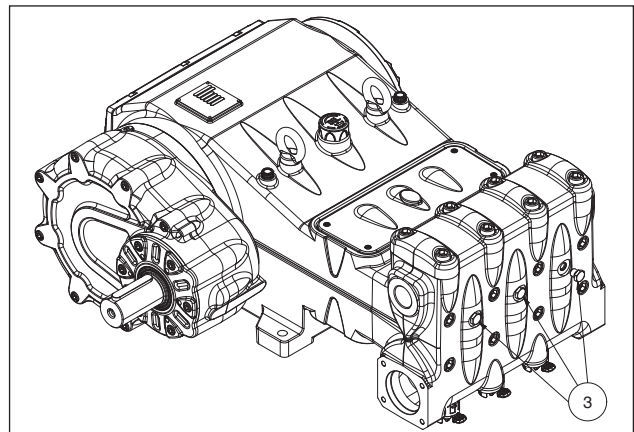

Fig. 11
**Should there be any priming trouble due to insufficient supply, it is possible to remove the three plugs in front of the head (except for the MK240 version) as shown in pos. ③ Fig. 11.**